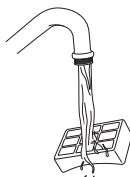

Fig. 23
- 4 Wash the filter under the tap using lukewarm water with the dirty side face down until the water runs clear. (Fig. 23)